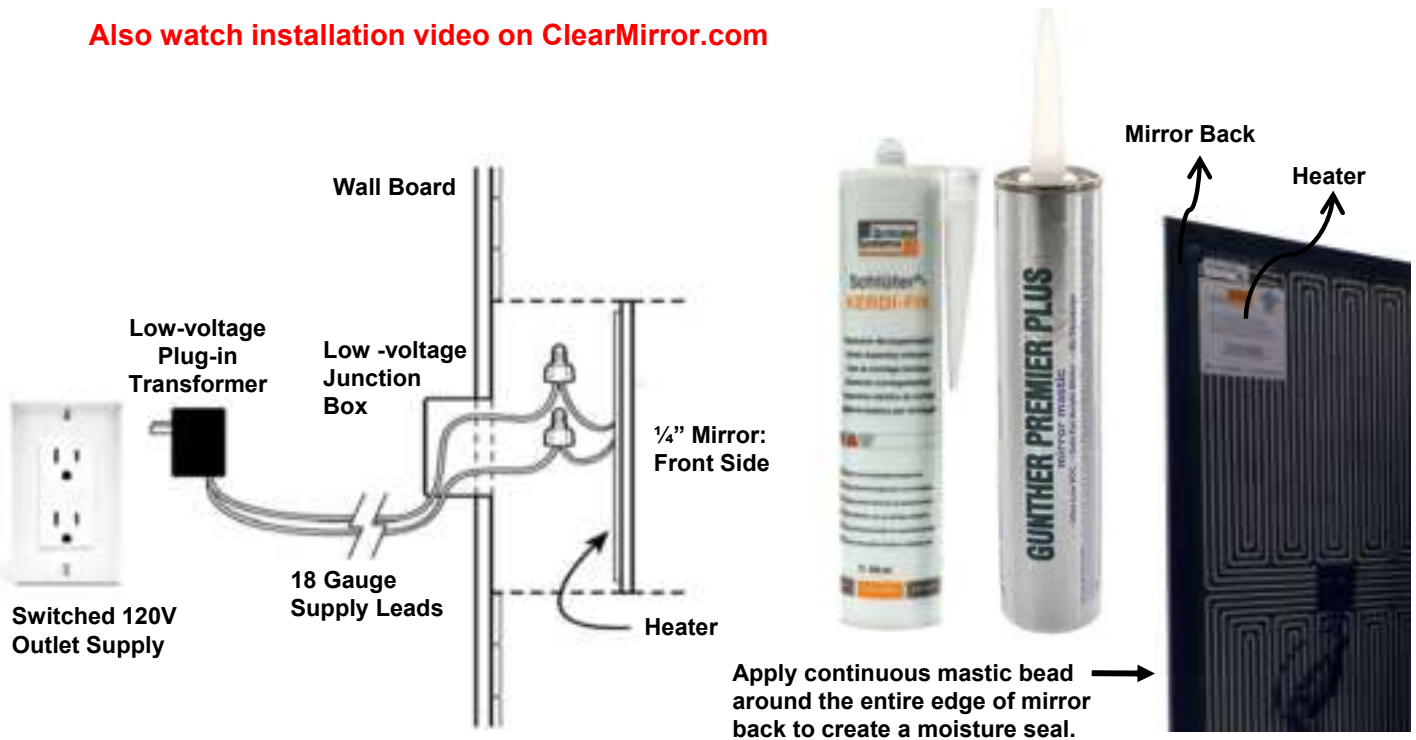

Figure 2. Connecting the wires and applying mirror mastic.
6. Apply a **continuous bead around the entire edge** perimeter to protect mirror (see Figure 2).